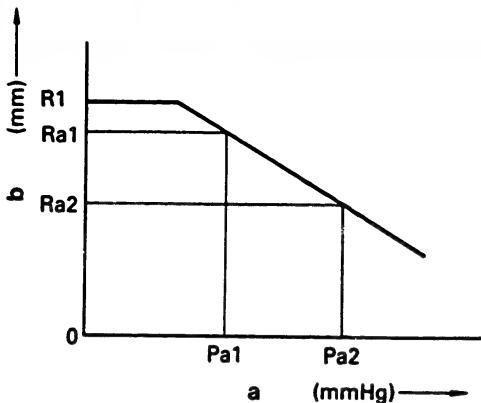

Fig. 85 Aneroid compensator performance
- 3. Ensure the control rack moves to the positions $Ra1$ and $Ra2$ when the aneroid compensator pressure is reduced to $Pa1$ and $Pa2$ respectively. (Fig. 85)